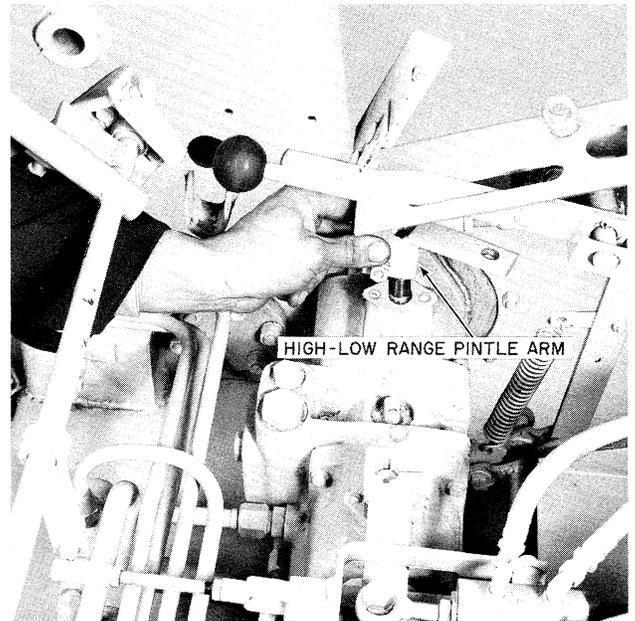

FIGURE 3
4. Loosen the cap screw and nut on the high-low pintle arm and remove as shown in Figure 3.